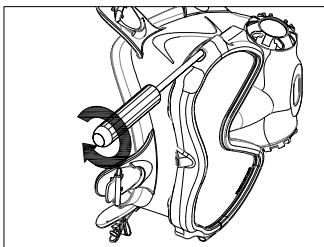

FIGURE 8
5. Use a #2 Phillips screw driver to thread a screw with washer installed to the nut. You may have to squeeze the upper and lower frames together to allow the screw to reach the nut. Do not fully tighten screw (Fig. 8).